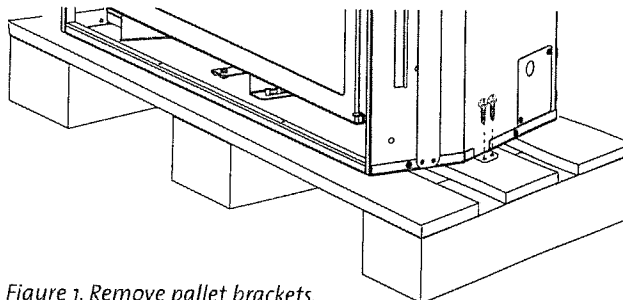

Figure 1. Remove pallet brackets.
5. **Remove Pallet Brackets** - one on each side, two at the rear. See fig. 1 below.